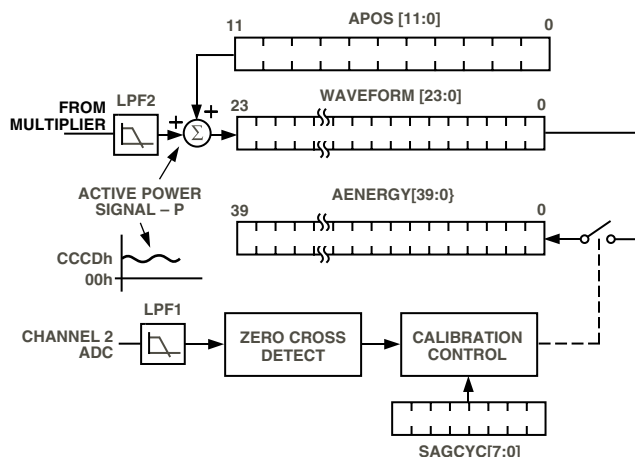

Figure 34. Energy Calculation in Calibration Mode
As mentioned in the last section, the discrete time sample period (T) for the accumulation register is $1.1 \mu s$ ($4/CLKIN$). With full-scale sinusoidal signals on the analog inputs and the Active Power Gain register set to 000h, the average word value from LPF2 is CCDDh—see Figure 34. The maximum value that can be stored in the Active Energy register before it overflows is 2^{39} or 7F, FFFF, FFFFh. Therefore the integration time under these conditions is calculated as follows:
By using the on-chip zero-crossing detection on Channel 2 the energy calibration can be greatly simplified and the time required to calibrate the meter can be significantly reduced. To use the zero-cross detection the ADE7756 is placed in calibration mode by setting Bit 7 (CMODE) in the Mode register. In Calibration Mode the ADE7756 accumulates the Active Power signal in the Active Energy register for an integral number of half cycles, as shown in Figure 34. The number of half-line cycles is specified in the SAGCYC register. The ADE7756 can accumulate Active Power for up to 255 half-cycles. Because the Active Power is integrated on an integral number of line cycles, the sinusoidal component is reduced to zero. This eliminates any ripple in the energy calculation. Energy is calculated more accurately and in a shorter time because integration period can be shortened. At the end of an energy calibration cycle the SAG flag in the Interrupt Status register is set; this will cause the SAG output to go active low. If the SAG enable bit in the Interrupt Enable register is enabled, the IRQ output will also go active low. Thus the IRQ line can be used to signal the end of a calibration also. Another calibration cycle will start as long as the CMODE bit in the Mode register is set. Note that the result of the first calibration is invalid and must be ignored. The result of all subsequent calibration cycles is correct.